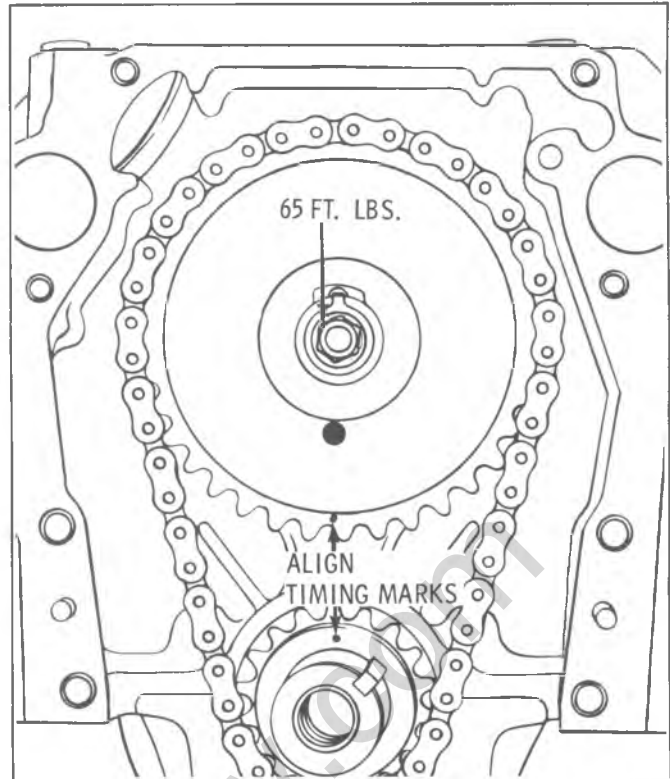

Fig. 6A6-85--Aligning Timing Marks
3. Install camshaft gear, crankshaft gear and timing chain together, and align timing marks. (Fig. 6A6-85)